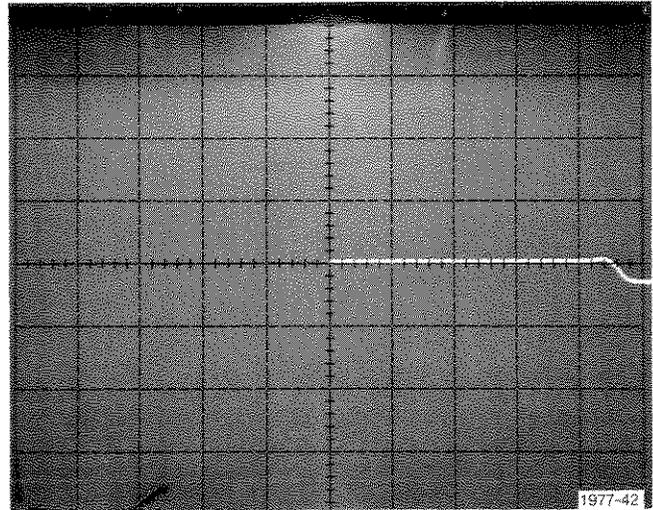

Fig. E-6. Input common-mode voltage range.
c. Check that the Input Common-mode Voltage Range crosses a value 1.5 volts less than $V+$ ($V+ = 3.5$ volts for this test). The specified limit is $3.5\text{ V} - 1.5\text{ V}$, or 2 V . The display must be flat at the 2 V point (four divisions right of the display zero reference point, see Fig. E-6).